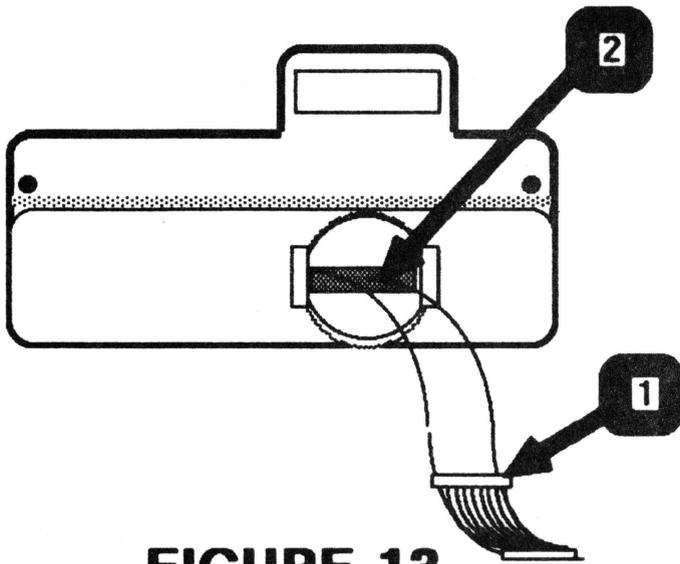

FIGURE 13
1. Slip the end of the ribbon cable (without the plastic cable brace) through the opening on the inside of the connector box case. (See Figure 13.)
Pull the cable through the connector box case until the plastic cable brace (Figure 13, #1) meets the slot (Figure 13, #2) on the inside of the case.